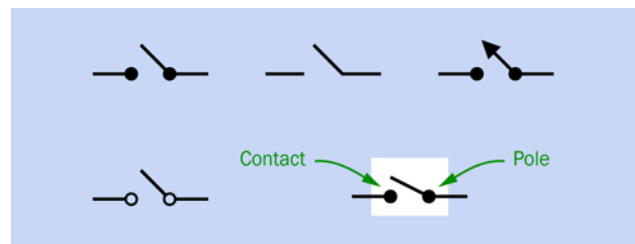

Figure 2-40 Five variations in the schematic symbol for a SPST switch. They are all functionally identical.
1. The Switch. Figure 2-40 shows five variations of that most basic component, a single-pole, single-throw switch. In each case, the pole happens to be on the right, while the contact is on the left—although with a SPST switch, this does not make a significant difference. In this book I have chosen to include a white rectangle around each switch, to emphasize that although it has two parts, they constitute one component.